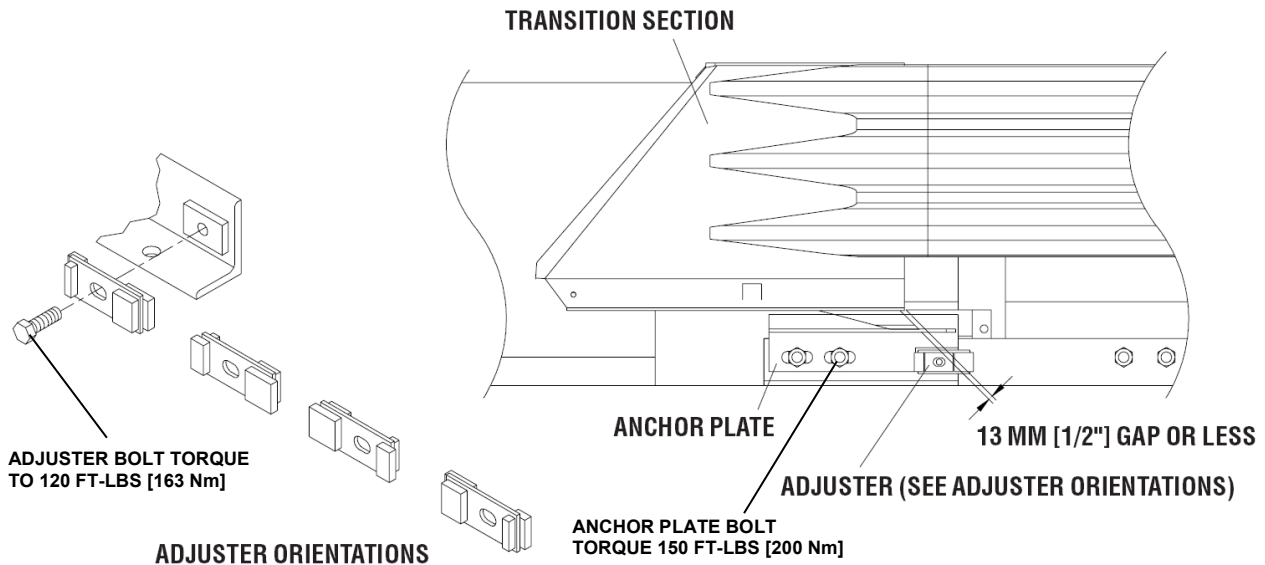

Figure 24
- 2) Close the gate and inspect the Anchor Plate fit with the gate Transitions (Figure 24).